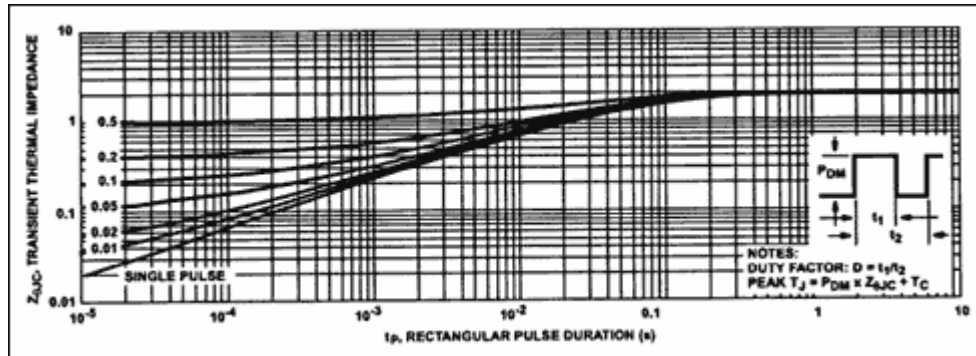

Figure 4. Transient thermal resistance, Fairchild IRF530 (courtesy: Fairchild Semiconductor)
5. Determine MOSFET temperature rise during the transient. We want the MOSFET to survive this power pulse without overheating. So it is now time inspect the transient thermal resistance curve from the Fairchild IRF530 data sheet as reproduced in Figure 4. Entering the curve at $75\mu\text{sec}$ (7.5×10^{-5}) on the horizontal axis, and rising vertically to intercept the solid (single pulse) line, we read the transient thermal resistance on the vertical axis to be $\theta_{JC} = 0.05^\circ\text{C}/\text{W}$. We calculate junction
7. Determine the current and MOSFET power dissipation under short-circuit conditions. If a short circuit is placed on the output of the hot-swap circuit at C_L , Q1 current is determined by $I_{D(\text{ON})} \approx 50\text{A}$ as before. The short circuit places the entire supply voltage across the MOSFET in series with the fuse resistance. Neglecting the fuse resistance provides a worst-case calculation of $P_{D(\text{SC})} = 48\text{V} \cdot 50\text{A} = 2400\text{W}$. We already know from Step 6 that the fuse must blow at 48A in 8msec. Therefore, we are curious to know if Q1 will survive 2400W for 8msec. Entering the curve of Figure 4 at 8msec, we find a single-pulse thermal resistance of $0.59^\circ\text{C}/\text{W}$. A new calculation indicates a junction temperature rise of $0.59^\circ\text{C}/\text{W} \cdot 2400\text{W} = 1440^\circ\text{C}$. Even if the fuse should blow at 2msec (midway between the min and max curves) junction temperature rise would be 851°C . This is well above the melting point of aluminum die metalization, and the MOSFET would be destroyed in under 2msec. Q1 will fail shorted and the fuse will blow.